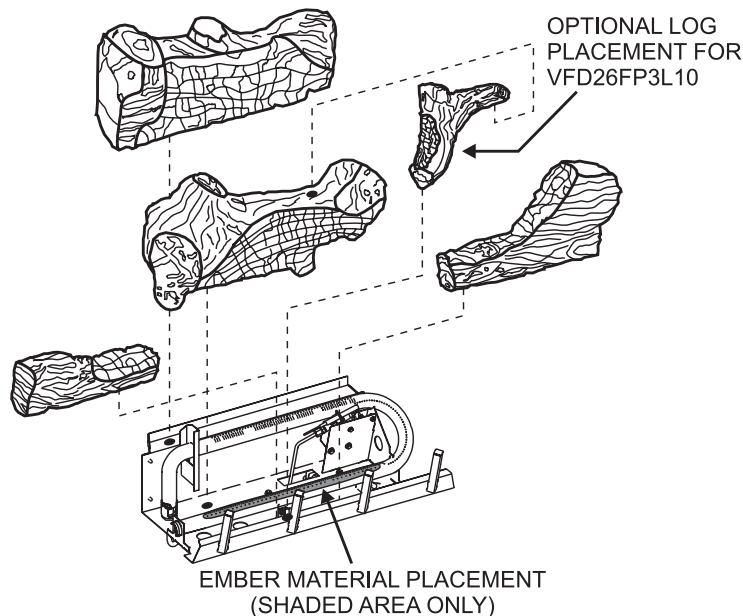

Figure 12
**Attention:** Do not use Figures 12 and 13 to order logs. Refer to Pages 34 to 35, Parts list and Page 36, Parts View to order logs.
Refer to Figure 12 for the following warning.